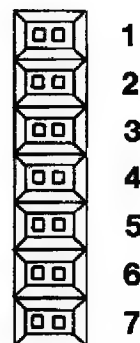

Figure 2. Jumpers
STEP 10. Find the block of jumpers on the upper right of the Accelerator IIe. Refer to Figure 2. There are 7 jumper positions. The top jumper goes with slot 1, the next with slot 2, etc. The bottom jumper goes with slot 7. Now for each slot where you have any type of memory board, *remove* the corresponding jumper (small plastic gadget). If you have an Apple IIe, ignore the auxiliary slot. For an Apple II or II Plus, the Accelerator IIe will not recognize a memory board in slot 0. Thus there is no jumper for slot 0. We recommend that you put the Accelerator IIe in slot 0 of an Apple II or II Plus.